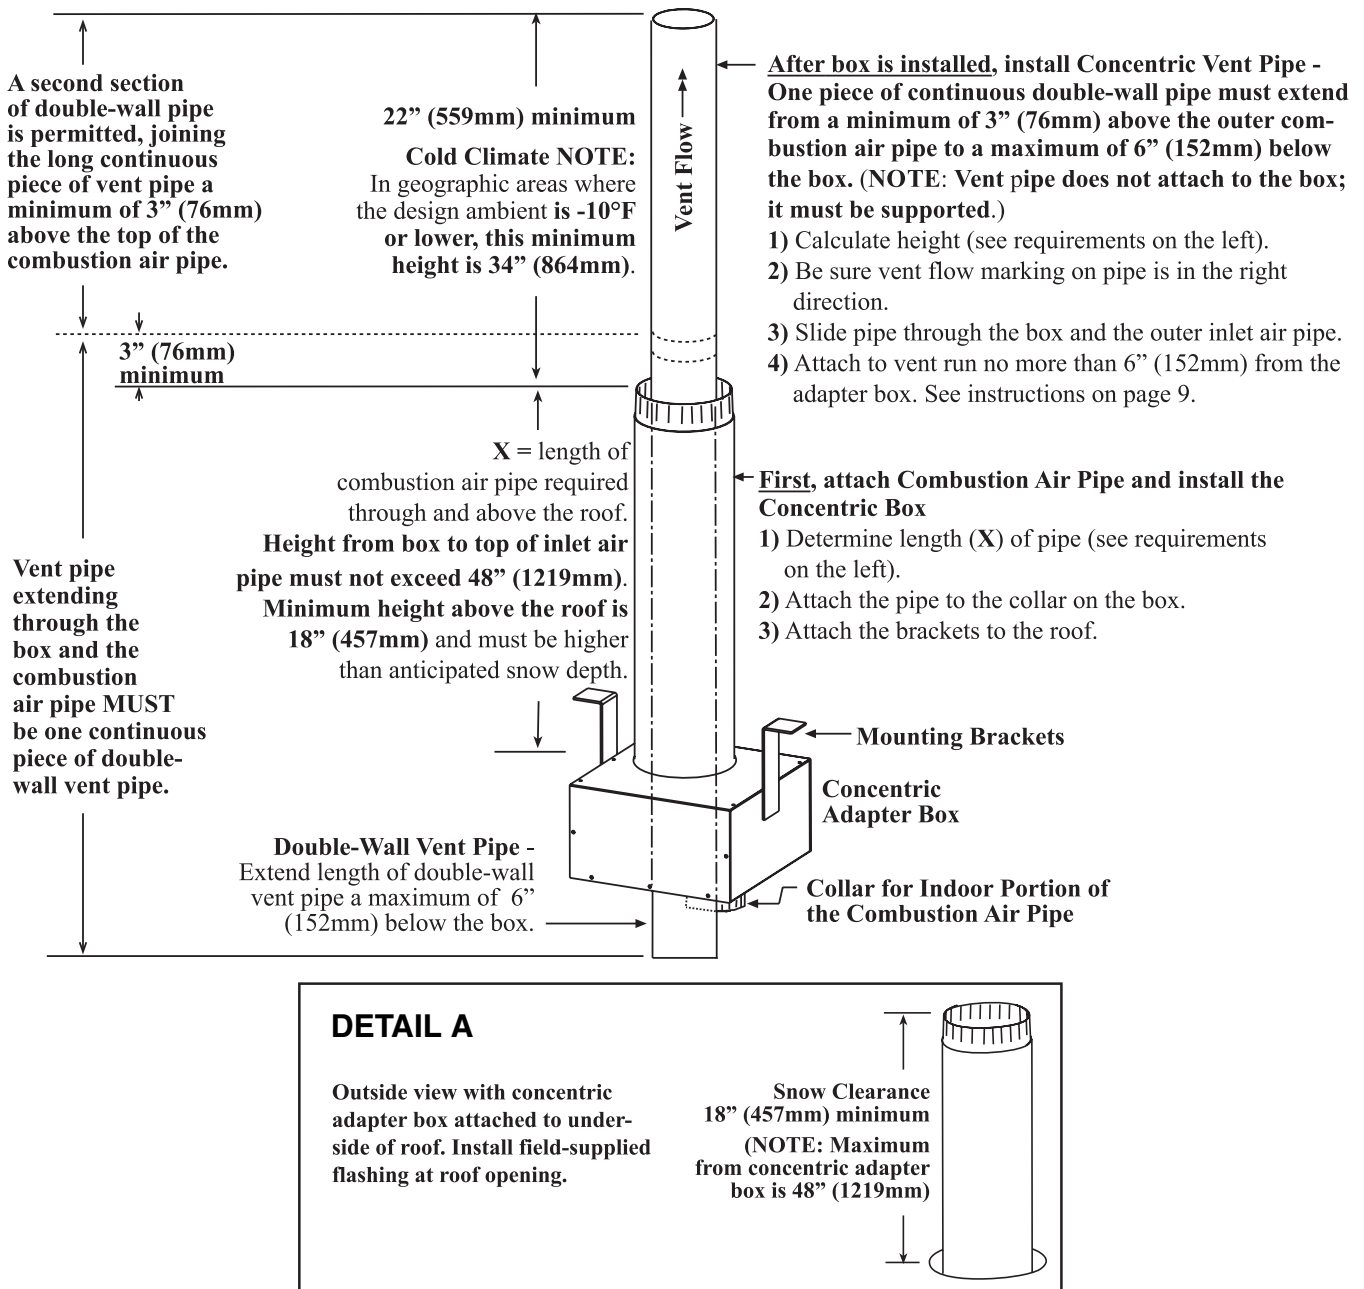

Figure 18. Vertical Vent Piping Installation
- Refer to Figure 18 to connect outside portion of combustion air pipe to box. Determine length of combustion air pipe so that dimension X in Figure 18 is equal to bracket length plus roof thickness and plus anticipated snow depth. Ensure that length of combustion air pipe does not exceed 48 inches (1219 mm) or does not extend *less than* 18 inches (457 mm) above roof.
- Insert combustion air pipe through roof as shown in Figure 18, DETAIL A
- a. Refer to Figure 18 to determine lengths of each pipe segment and to calculate total length required. Determine length by adding requirements: starting at top, vent pipe must extend minimum of 22 inches (559 mm) beyond top of inlet air pipe plus width of roof, plus length of brackets, plus 6 inches (152 mm) through box, and plus 6 inches (152 mm) extending out of box on heater side.